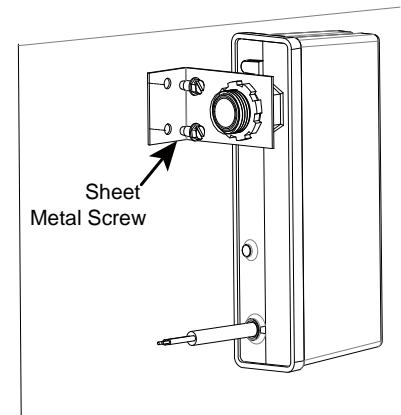

Figure 2. Mounting Compressor Defender™ in condensing unit.
**NOTE:** If you want to install the *Compressor Defender*™ inside a condensing unit, drill two holes in the sheet metal and then insert the L clip on the *Compressor Defender*™ over the holes and secure the connection with two customer supplied sheet metal screws. See Figure 2.